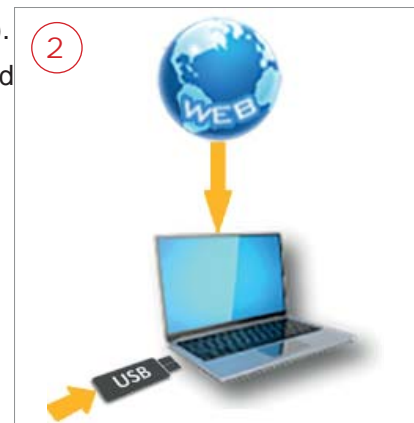

Fig. 14
- 2) Insert the USB PEN DRIVE into a PC connected to the internet (Fig. 14).